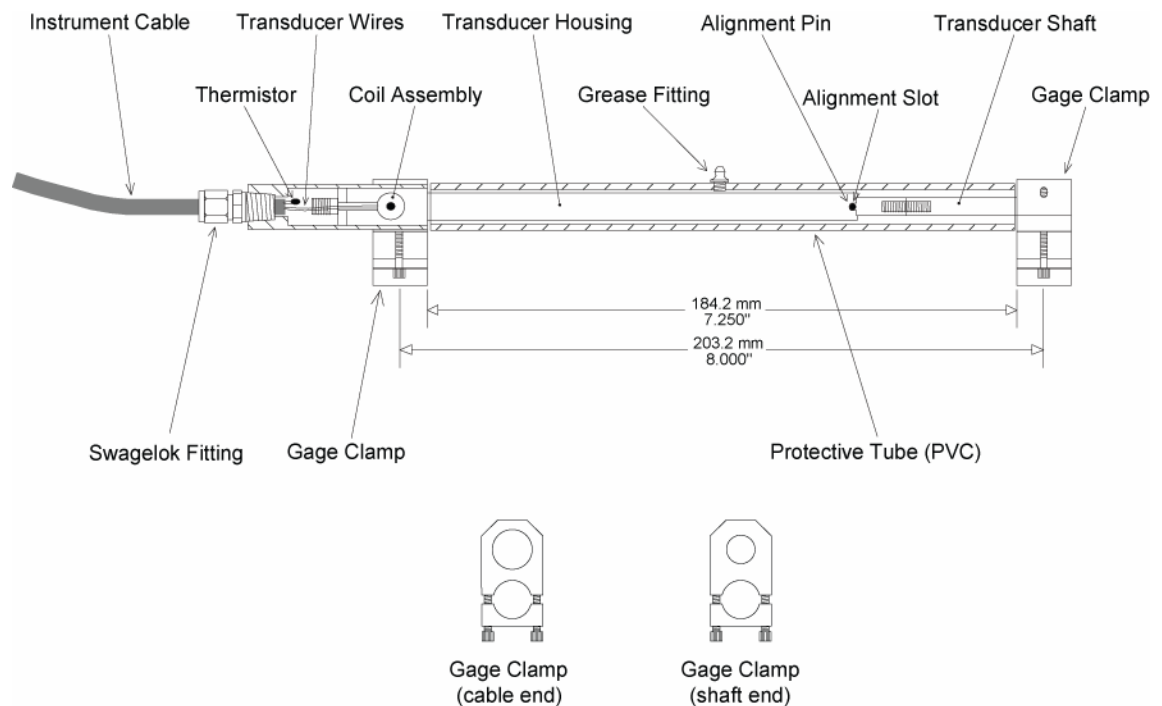

Figure 1 - Model 4410 Vibrating Wire Strandmeter
5. For strands that are to be embedded in concrete, fill the PVC tube with grease. A 1/4-28 threaded hole (see Figure 1) is provided which will accept a standard grease fitting. Screw the fitting into the hole, fill with grease and then remove the fitting.